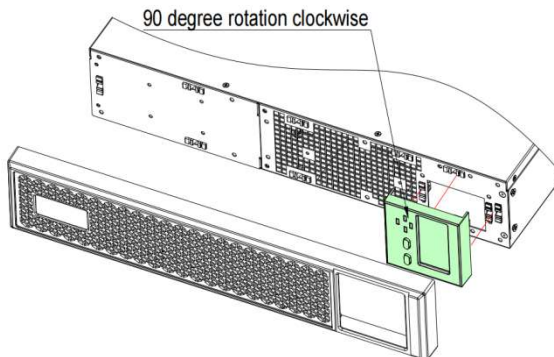

Fig.4-3 Rotating the operation and display panel
2. Pull the operation and display panel gently, rotate it 90 degrees clockwise and snap it back into position, as shown in Fig.4-3